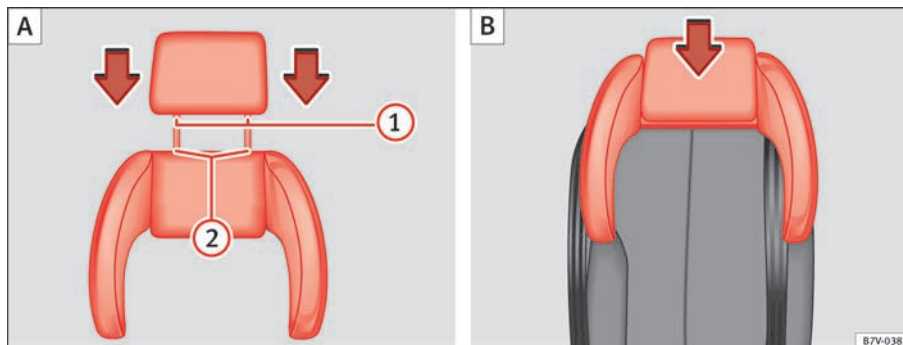

Fig. 30 Integrated child seats. position the head restraint over the side head restraint (A) and fit into place (B).
- Insert the guide rods ⇒ fig. 30 **1** of the head restraint into the guides on the side head restraint **2**.